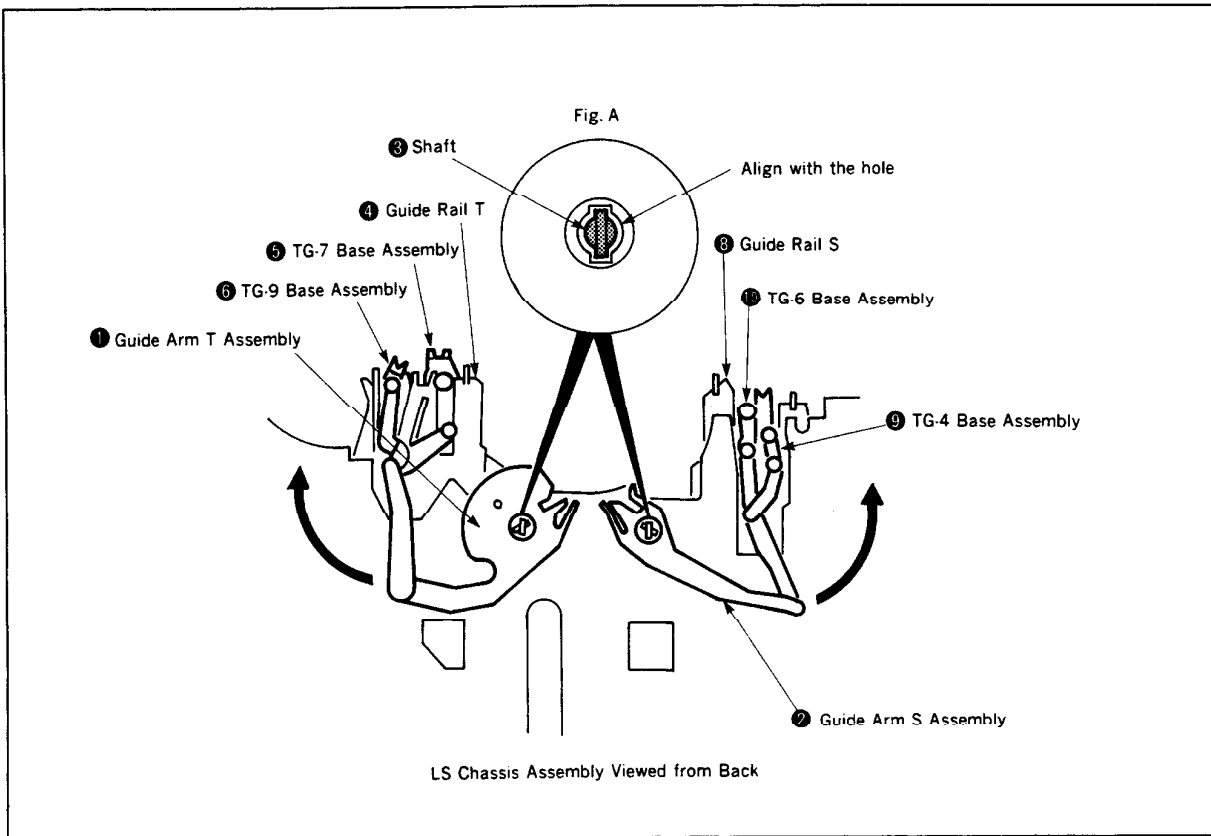

Fig. 24
- 3) Rotate the guide arm T assembly ① and guide arm S assembly in arrow directions respectively, align their shafts ③ with the holes as shown in Fig. A, and remove them. (Fig. 24)